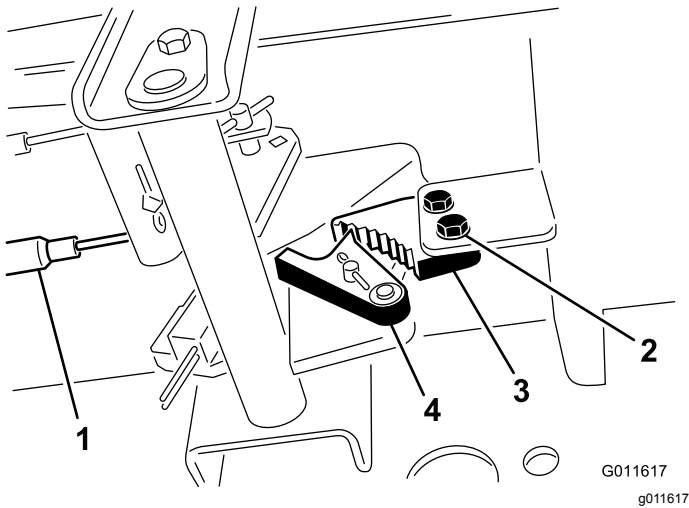

Figure 63
1. Loosen the 2 screws securing the parking-brake pawl to the frame (Figure 63).
2. Press the parking-brake pedal forward until the brake detent completely engages on the brake pawl (Figure 63).